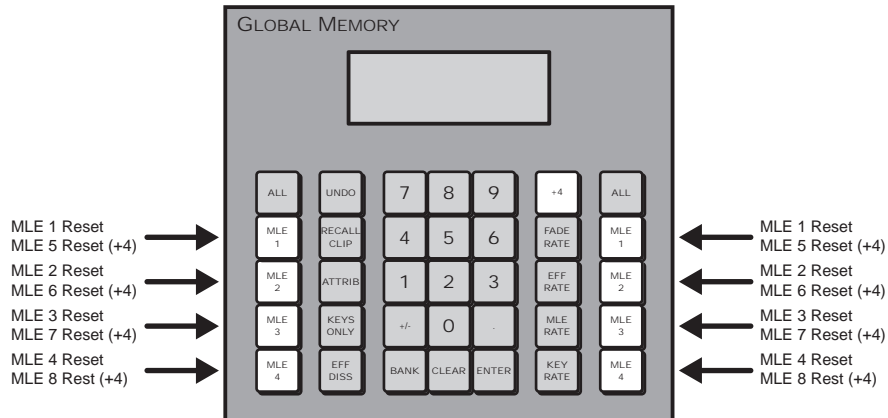

Figure 4.12 Press to Reset an Individual MLE
- **Individual MLEs (1-4)** — To reset MLEs 1-4 individually, press and hold both the **MLE #** button in the **Recall** and the **MLE #** button in the **Store** areas (**Figure 4.12**). Where the
- **Individual MLEs (5-8)** — To reset MLEs 5-8 individually, toggle **+4** on and press and hold both the **MLE #** button in the **Recall** and the **MLE #** button in the **Store** areas (**Figure 4.12**). Where the # is the number of the MLE you want to reset. For example, to reset **MLE 5**, you would toggle **+4** on, and press and hold the **MLE 1** buttons. You can only reset MLEs that are assigned to your control panel.